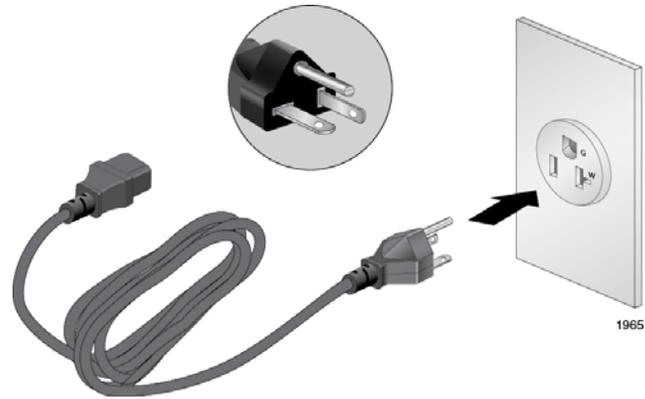

Figure 32. 100 - 125 VAC 125 V NEMA 5-20 Plug and Receptacle
- The power cords provided with the AT-SBxPWRSYS1 and AT-SBxPWRPOE1 Power Supplies for 100-125 VAC installations have 20 Amp, 125 V NEMA 5-20P plugs. The plug is only compatible with a NEMA 5-20R receptacle. See Figure 32 on page 87.